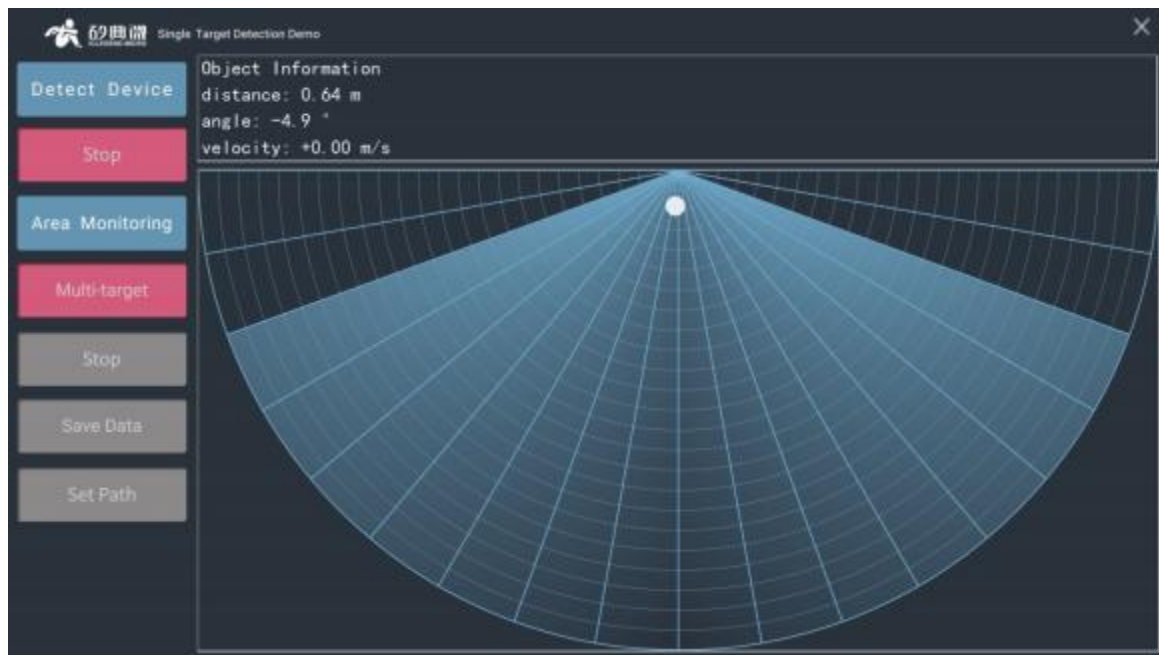

Figure 4-4 Single target detection demonstration
Step 3: Click the "Start/Stop" switch to display the position of the target relative to the radar, as shown in Figure 4-4: